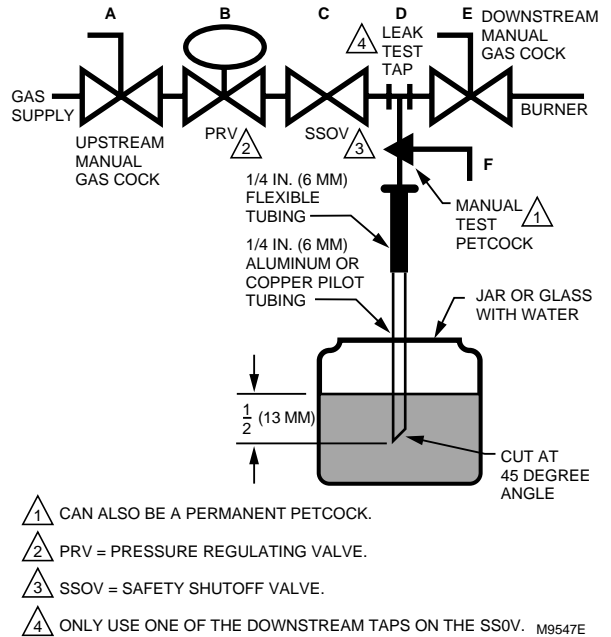

Fig. 6. Valve leak test.
2. Follow the instructions supplied by the appliance manufacturer. See Fig. 6 and 7 for reference.